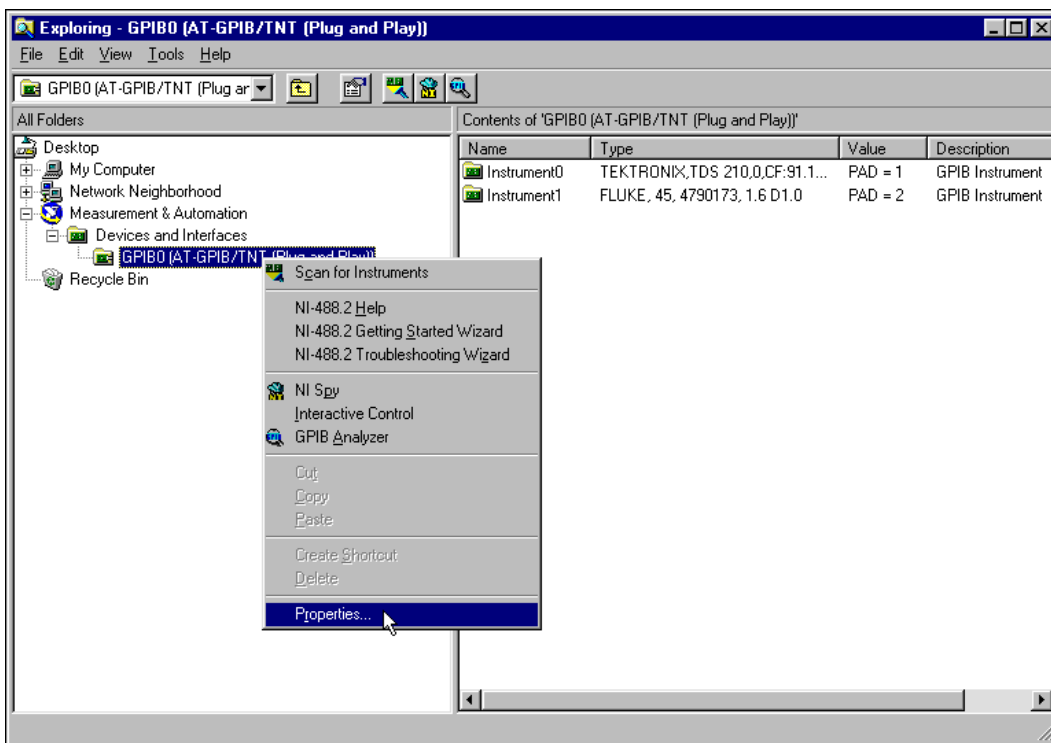

Figure 2-13. Select Properties
1. To open the Configuration utility, select a GPIB interface under **Devices and Interfaces** in the left window frame of Measurement & Automation Explorer, right-click, and choose **Properties**, as shown in Figure 2-13.
1. Select a GPIB interface under **Devices and Interfaces** in the left window frame of Measurement & Automation Explorer, right-click, and choose **Properties**, as shown in Figure 2-13.